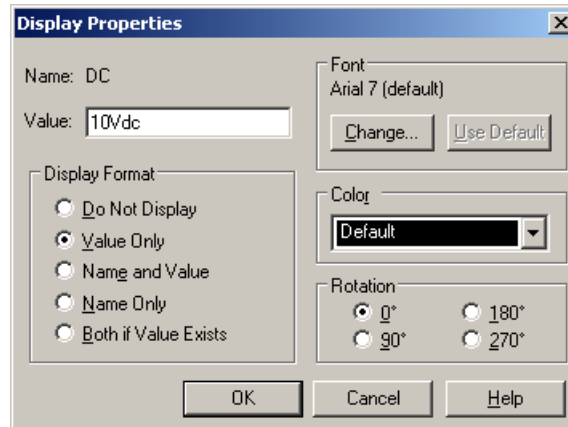

Figure 11. Dialogue box for changing the value of a component, VDC here.
Capture gives each component a default value when it is placed but this must usually be changed. All resistors are initially 1 k Ω , for instance. The unit is not shown – ohms are assumed by default so the display is just 1k. Double-click on a value to change it. This brings up the dialogue box shown in figure 11 on the next page for the battery (VDC). If you see something different, you have probably double-clicked in the wrong place. Close the box and try again.
- Double-click on the value of R2, which brings up a box like that in figure 11 on page 11.